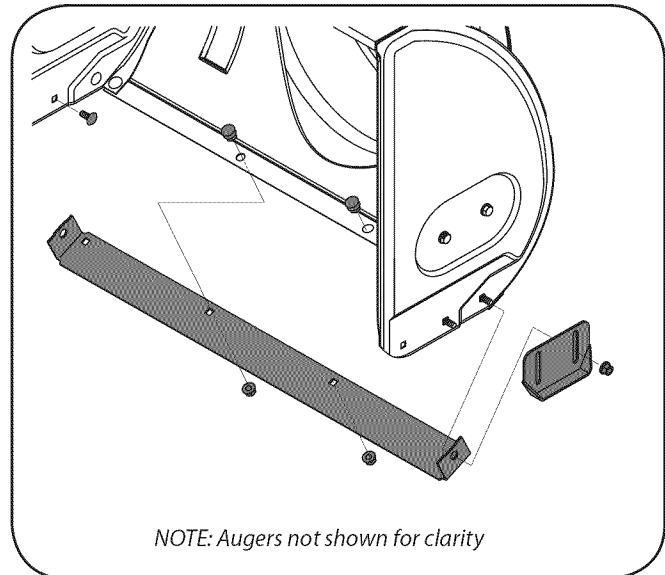

Figure 6-1
1. To replace skid shoes, remove two carriage bolts and nuts securing each skid shoe to the auger housing, See Fig. 6-1.
3. To remove shave plate: Remove both skid shoes and hardware including carriage bolts and nuts which attach shave plate to the snow thrower housing. For location of shave plate, see Fig. 6-1.
The augers are secured to the spiral shaft with four shear pins and cotter pins. If you hit a foreign object or ice jam, the snow thrower is designed so that the pins may shear. Refer to Fig. 6-1.